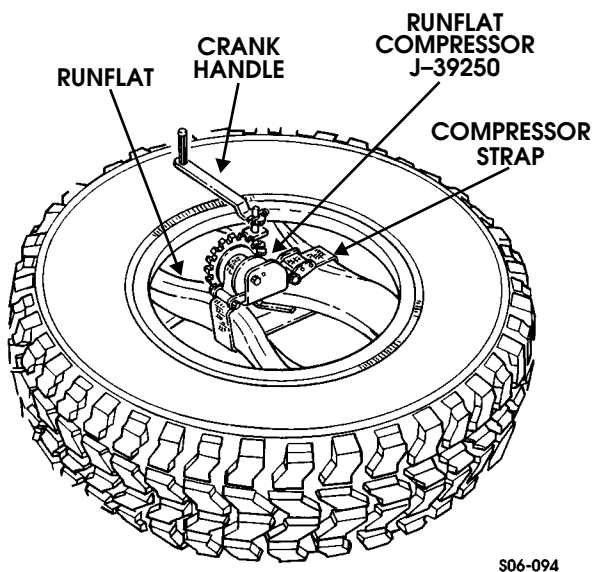

Figure 6-5: Crank Handle Runflat Compressor Operation
18. Position runflat compressor on an outer edge of runflat with handle assembly facing up and strap centered around runflat (Figure 6-5).